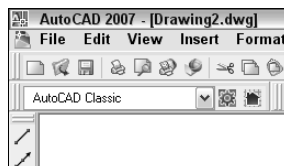

**Figure 2-2:** When you create a drawing based on a template, AutoCAD or AutoCAD LT creates a new drawing.
4. Click Open. You now have a blank drawing named **Drawing2.dwg**, as shown in Figure 2-2.